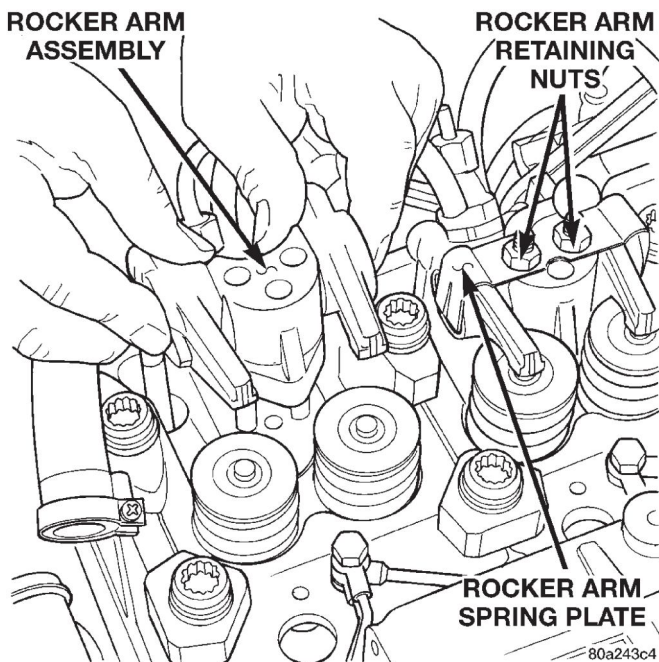

Fig. 23 Rocker Arm Retaining Nut
- (1) Disconnect the battery cables.
- (2) Remove generator bracket.
- (3) Remove breather hose.
- (4) Remove coolant pressure tank.
- (5) Remove cylinder head cover.
- (6) Remove rocker retaining nuts (Fig. 23).